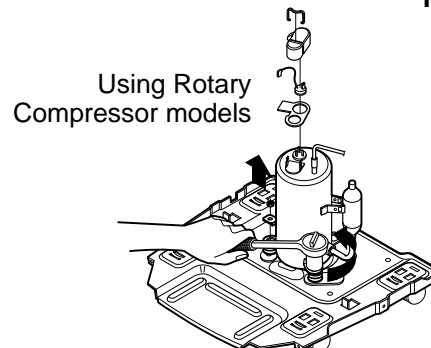

Figure 26
3. Remove the nuts and washers which fasten the compressor. (See Figure 26)
4. Remove the compressor. (See Figure 26)